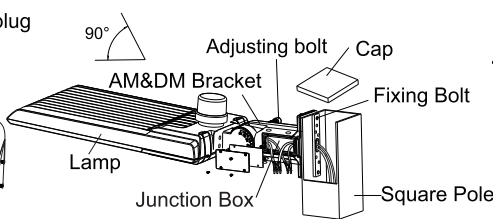

Figure 16
Step 2: Fix A&D bracket to square pole with bolt, open the cover of A&D bracket junction box, pull the wire into bracket junction box, connect the wire properly and cover the junction box. (Figure 16)
Notice: Adjustable angle is 0-90° (Figure 16)